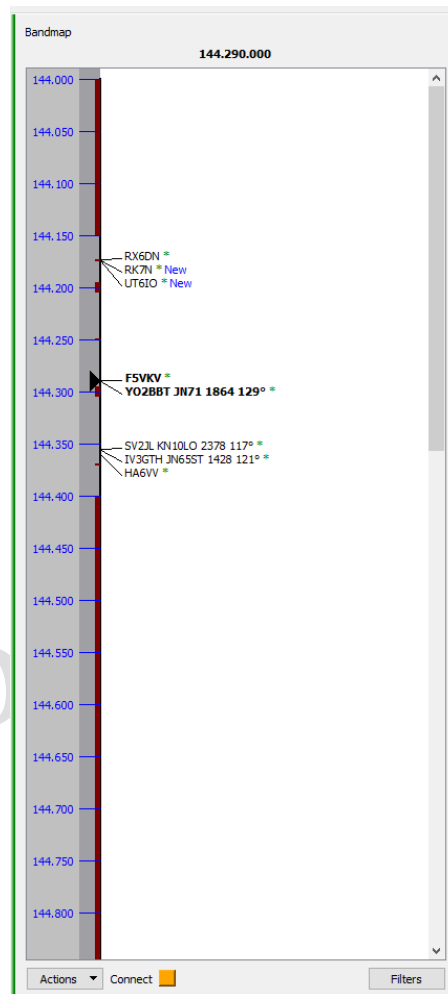

Figure 116 – Bandmap display
An example display is shown in Figure 116. The frequency scale on the left of the panel will not contain frequency markers until the rig is connected. Once the rig has been connected and the frequency scale has been set up it will be retained even if the rig is disconnected or the band changed.
- The current rig frequency is indicated by the black ‘play’ symbol (‘dial cursor’ on 144.290 in Figure 116). If this symbol turns red it indicates that it is a frequency/mode pairing that does not match the bandplan.
- If the dial cursor is not viewable, click the dial frequency at the top of the panel (144.290 at top of Figure 116) to bring that frequency back into the viewport.